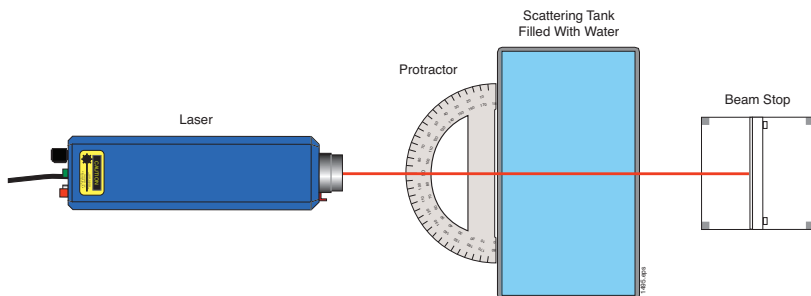

Figure 7. Top view of the equipment setup for observing refraction.
2. Collect all of the items listed in the EQUIPMENT NEEDED section. Position all the items as shown in Figure 7. Place the white side of the beam stop facing the laser beam.
8. Depress the ON/OFF switch (SW) on the control scattering tank of the laser until it clicks into the ON position. (The switch should be slightly depressed.)
11. Double-check to be sure the laser beam stop is in the path of the laser beam as shown in Figure 7.